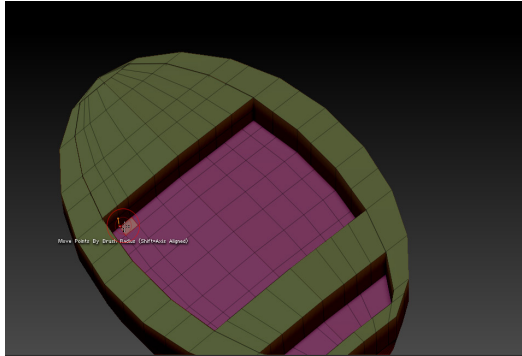
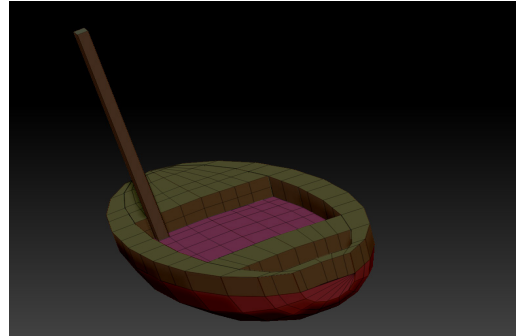

Figure 3-122 Selected polygon
Figure 3-123 The extruded polygon
12. Select the polygon of the sphere, as shown in Figure 3-122 and drag the cursor upward; the polygon is extruded, as shown in Figure 3-123 .